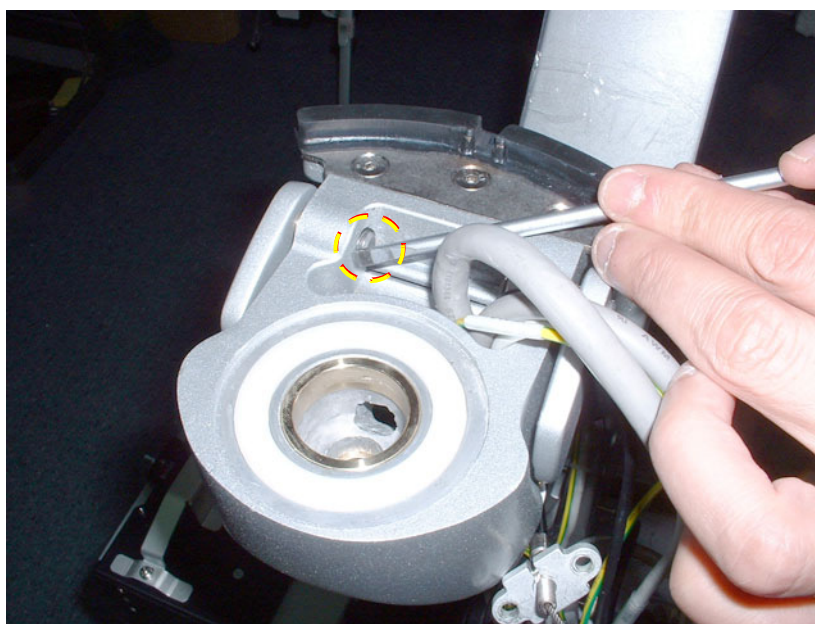

Figure 8-251 Ring Clips Securing Supporting Pins
- 9.) Release the ring clips securing the supporting pins - Figure 8-251.